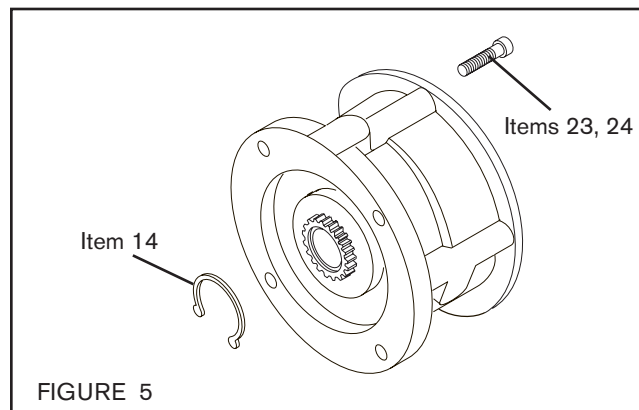

FIGURE 5
2. Remove the Retaining Ring (Item 14) (See Figure 5).
4. Alternately and evenly remove Socket Head Cap Screws (Item 23) and Lock Washers (Item 24) (See Figure 5).